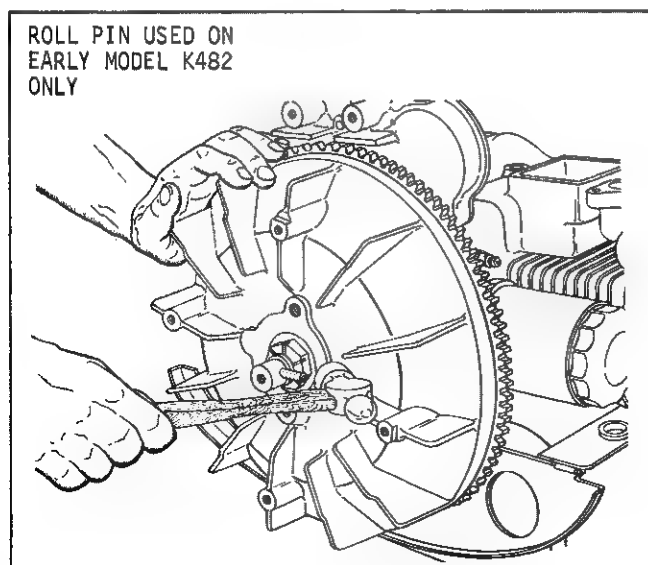

FIGURE 11-9 -- INSTALL ROLL PIN ON K482 MODELS
4. Bend lock tabs (if used) over flywheel nut. Drive roll pin back into crankshaft (see Figure 11-9) or install crank pin and lock in position with set screw.